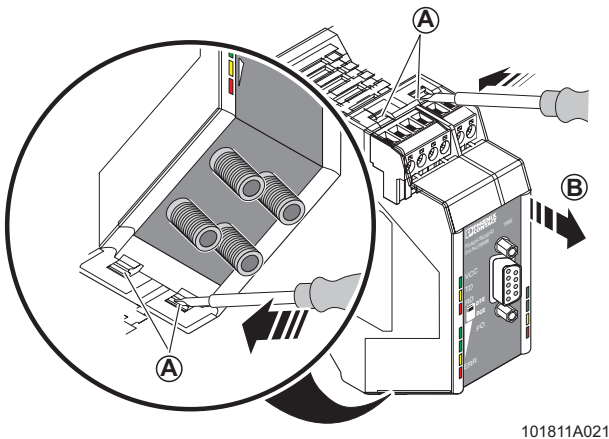

Figure 6 Opening the housing
- For configuration, release the housing cover using a screwdriver (A in Figure 6).
- Then carefully pull the PCB out of the housing as far as possible (B).